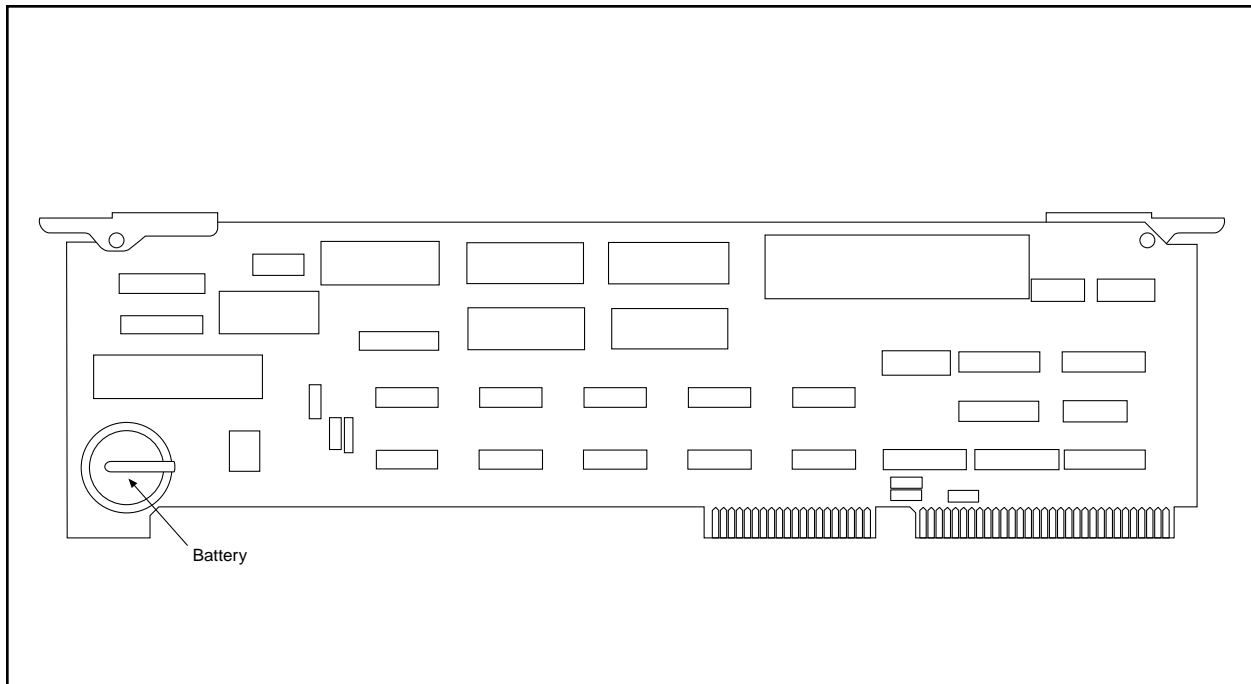

Figure 8. CPU Card Component Location
**IMPORTANT NOTE:** Remove the paper between the battery contacts on the CPU card if it has not been removed. Refer to Figure 8 and Sections 4.3.3.1.1 and 4.3.3.1.3.